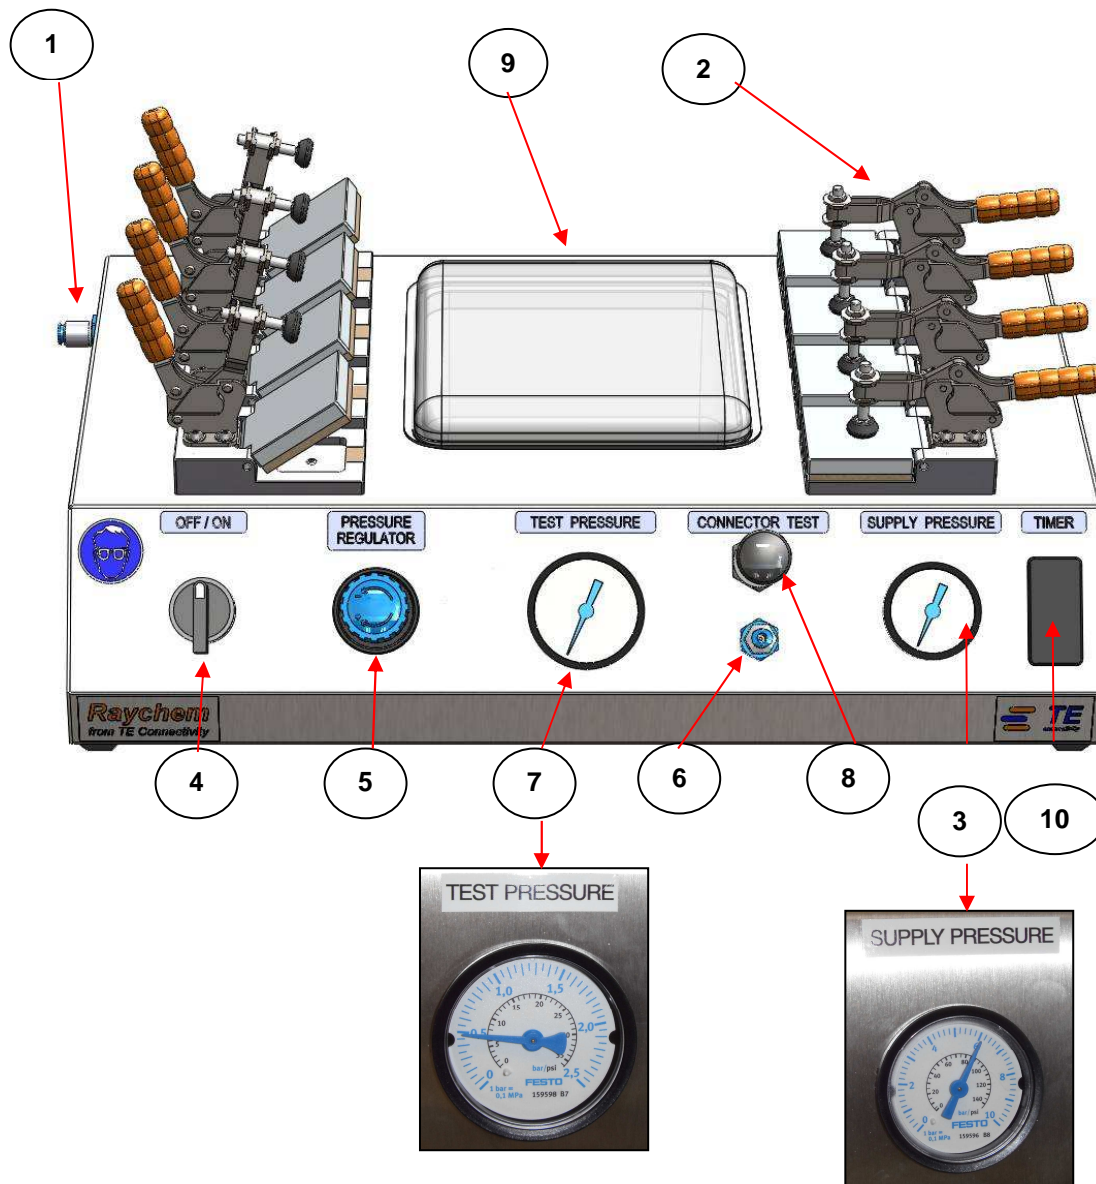

Figure 5. Front and top views
2.5 Connection to compressed air supply (Pos. 1 / see Figure 5)
Connector Test (Pos. 8 / see Figure 5)
Toggle Clamps (Pos. 2 / see Figure 5)
ON/OFF valve (Pos. 4 / see Figure 5)
Pressure Regulator (Pos. 5 / see Figure 5)
The Pressure Regulator is a panel mounted rotary control which restricts the air pressure supplied to the toggle clamps and to the Connector Test outlet. Turning this control clockwise increases the applied test pressure to a maximum of 2.5 bar (*see Figure 5*).
Test Pressure (Pos. 7 / see Figure 5)
This gauge is mounted centrally on the front panel and shows the air pressure after the Pressure Regulator, i.e. the test pressure applied to the wire ends on the test piece. This pressure is set by careful adjustment of the Pressure Regulator (see Figure 5).
Supply Pressure (Pos 3 / see Figure 5)
Mounted to the right of the front panel this gauge shows the input, unregulated, air pressure. The reading on this gauge is dependant on the input air pressure and cannot be adjusted by the AD-3050 controls (see *Figure 5*).
3.7 Emergency Stop (Pos. 4 / Figure 5)